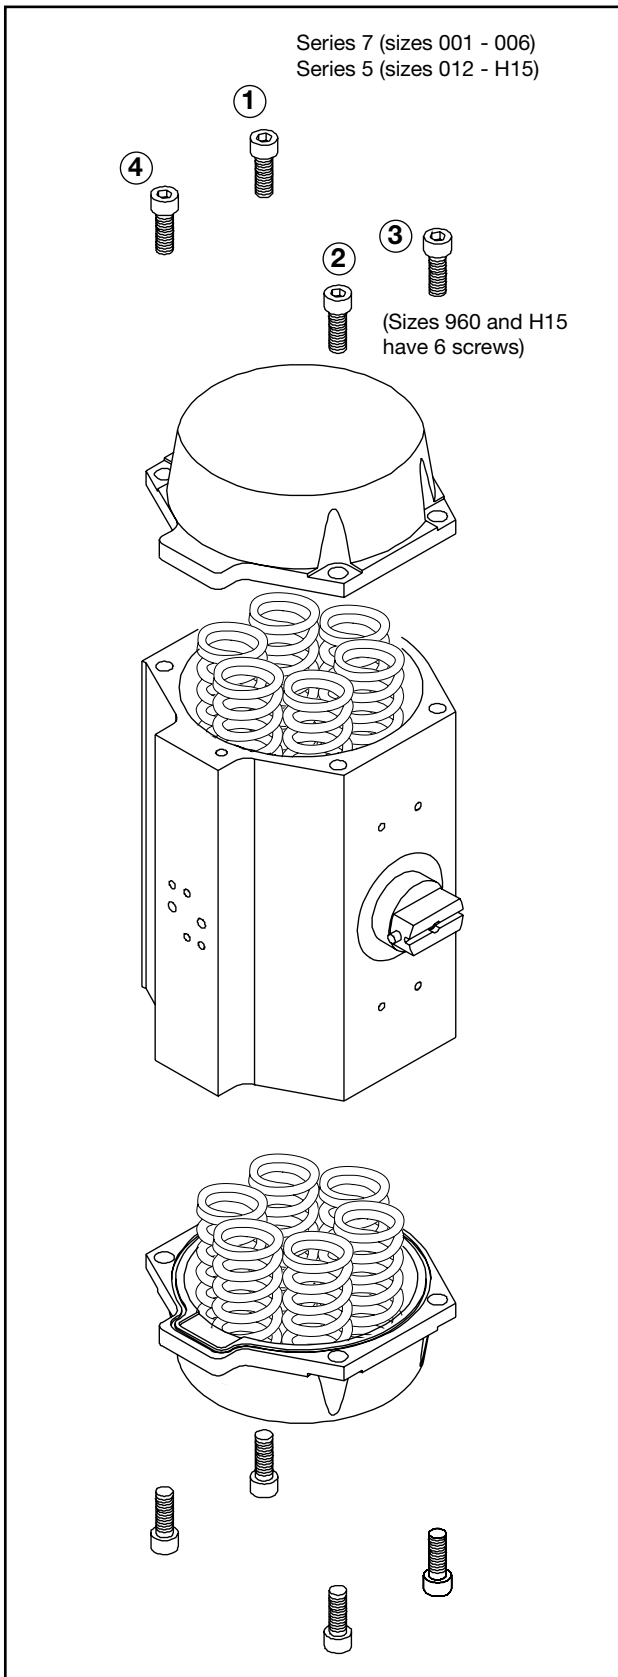

Fig. 7 Mounting an Actuator to the Valve
- c) remove screws in the sequence 1-4 (Fig. 7) by each only 1 cm. That's important for an even load during the relaxation process of the endcap.